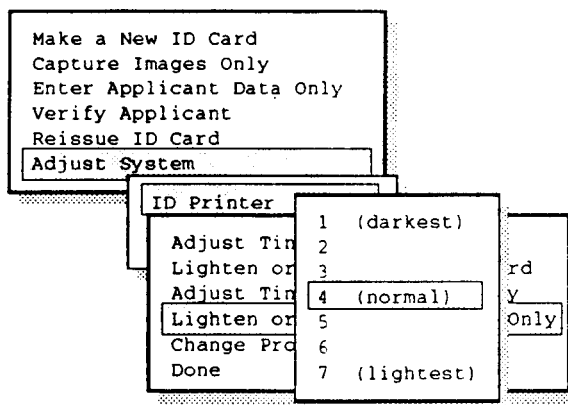

**Figure 2-41 Color adjustment window**
13. Select **Adjust Red** to display the color adjustment menu (Figure 2-41):